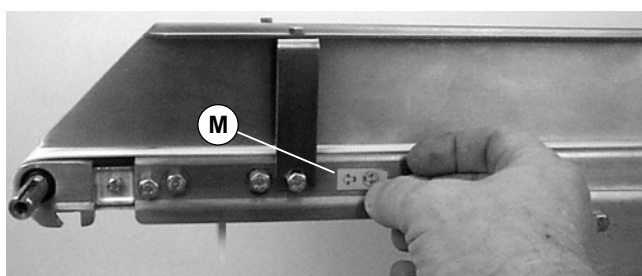

Figure 3
**NOTE:** 6100 Series sanitary conveyors are shipped with a “belt travel direction” sticker (M of Figure 3) installed. After drive is installed and tested, remove sticker.